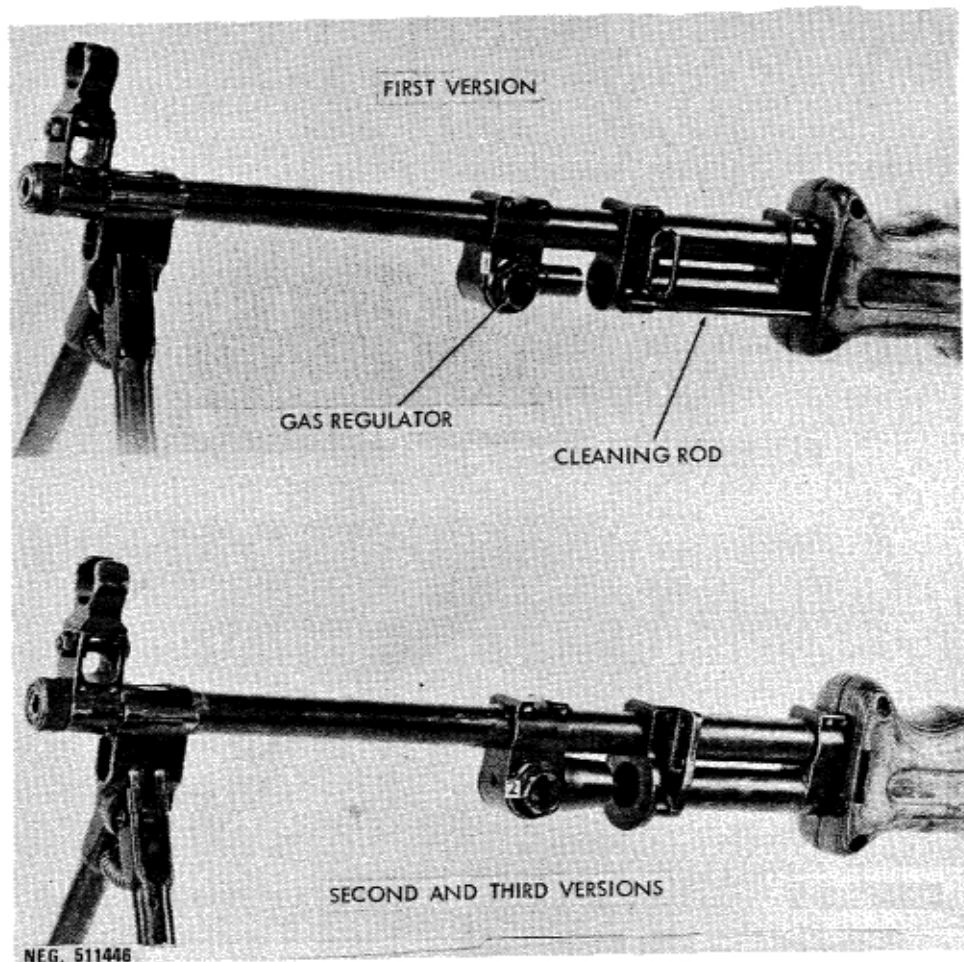

Figure 147. First and second model RPD gas cylinders.
- (1) First version: Cup-type gas piston; no dust cover; straight reciprocating handle; right-hand windage knob (fig 147). Most first version guns now have a cylinder sleeve fitted to the gas spigot, so that their gas mechanism resembles the later versions, and have a sliding dust cover fitted over the operating handle slot.
- (2) Second version: Plunger-type gas piston; no dust covers; straight reciprocating operating handle; left-hand windage knob (fig 147 and 148). Some second version guns have had a sliding dust cover similar to the ones fitted to the first version guns; others have had a bracket riveted to the side of the